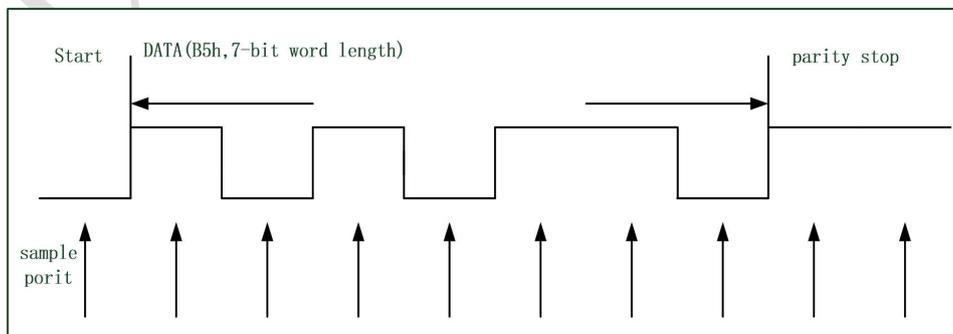

Figure 20. UART data representation and sampling
Each data byte starts with a start bit (0), 1 byte of data, and then ends with at least a stop bit (1). Each serial data bit is encoded before transmission and decoded after reception. A 1 is decoded with no IR pulse and a 0 is decoded by sending 3/16ths of one bit time IR pulse. Similarly, the received serial pulse is decoded as a 0 and the absence of an IR pulse is decoded as a 1, Please refer to Figure 20.